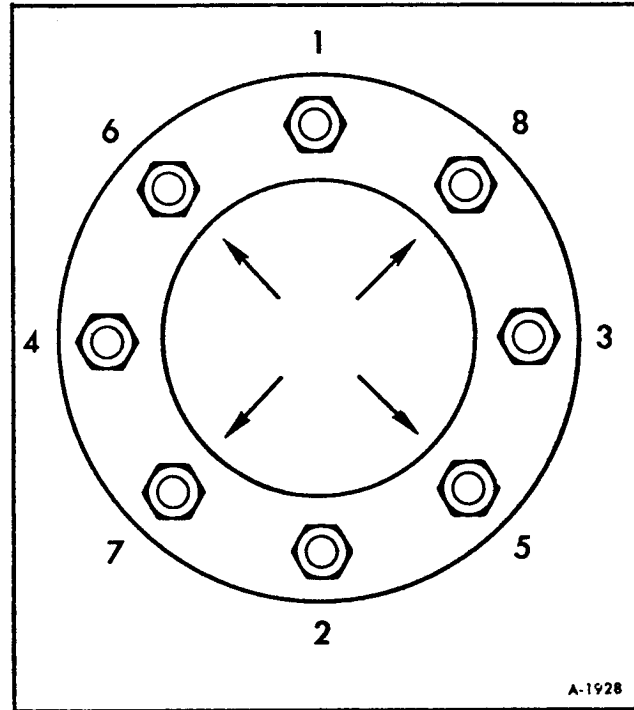

Figure 4—Wheel Stud Tightening Sequence
6. Install new wheels and install all wheel stud nuts loosely, then finger tighten only the nuts marked by arrows (Figure 4).
7. Tighten all nuts to 250 ft. lbs. in sequence shown in Figure 4. Never use oil or grease on studs or nuts.